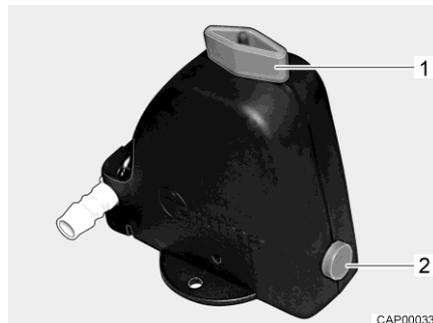

Fig. 181 Safety/drainage valve (Truma)
- Open the safety/drainage valve (Truma). To do this turn the knob (Fig. 181,1) parallel to the safety/drainage valve. The push button (Fig. 181,2) jumps out.